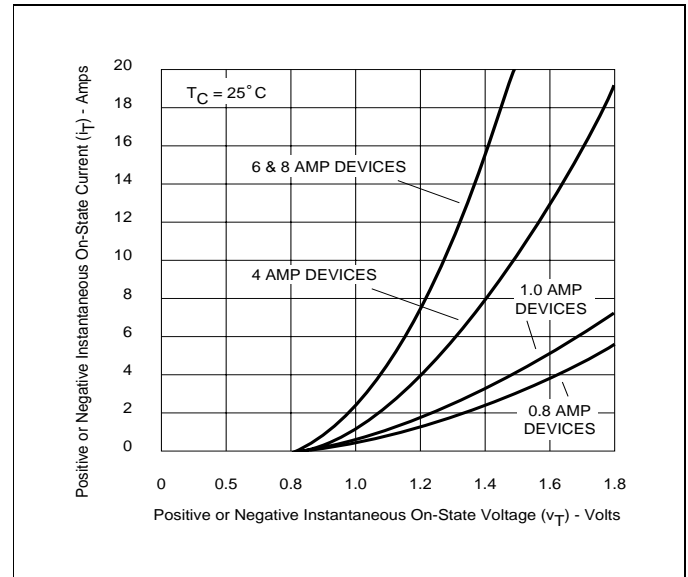

Figure 1.4 On-State Current vs On-State Voltage (Typical)
- See Figure 1.4 for  $i_T$  vs  $v_T$ .